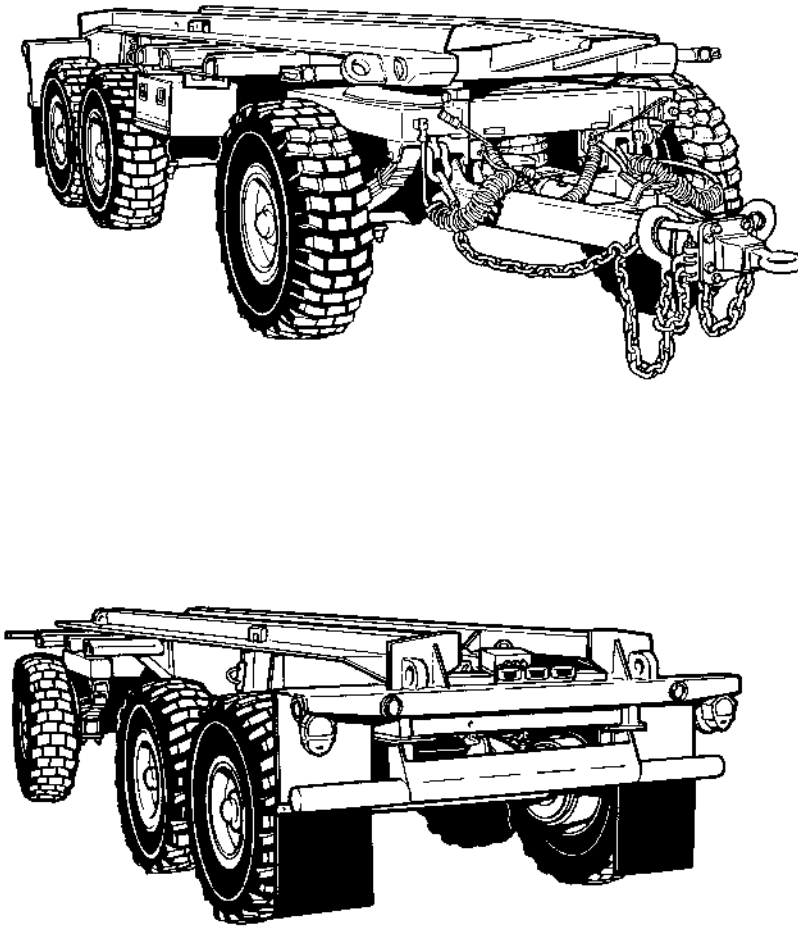

Figure 1-3. M1076 Palletized Load System Trailer (PLST)
M1076	Palletized Load System Trailer (PLST) is designed specifically for Palletized Load System. The trailer can be loaded directly from the truck using the Load Handling System (LHS) and Flatrack M1077. See Figure 1-3.
a. Characteristics. The PLS is an ammunition-hauling tactical wheeled truck and trailer combination with integral self-load/unload capability using PLS Flatrack (FR). There are two PLS configurations both with duplicate payload capacity and towing capability. One design incorporates a Material Handling Crane (MHC) (Figure 1-1). The other design does not have a MHC (Figure 1-2). Both trucks may have an accompanying towed PLS Trailer (PLST) (Figure 1-3). Major subsystems of truck are: cab, engine, transmission, drive train, suspension, electrical system, hydraulic system, pneumatic system, MHC, Load Handling System (LHS) and Central Tire Inflation System (CTIS).